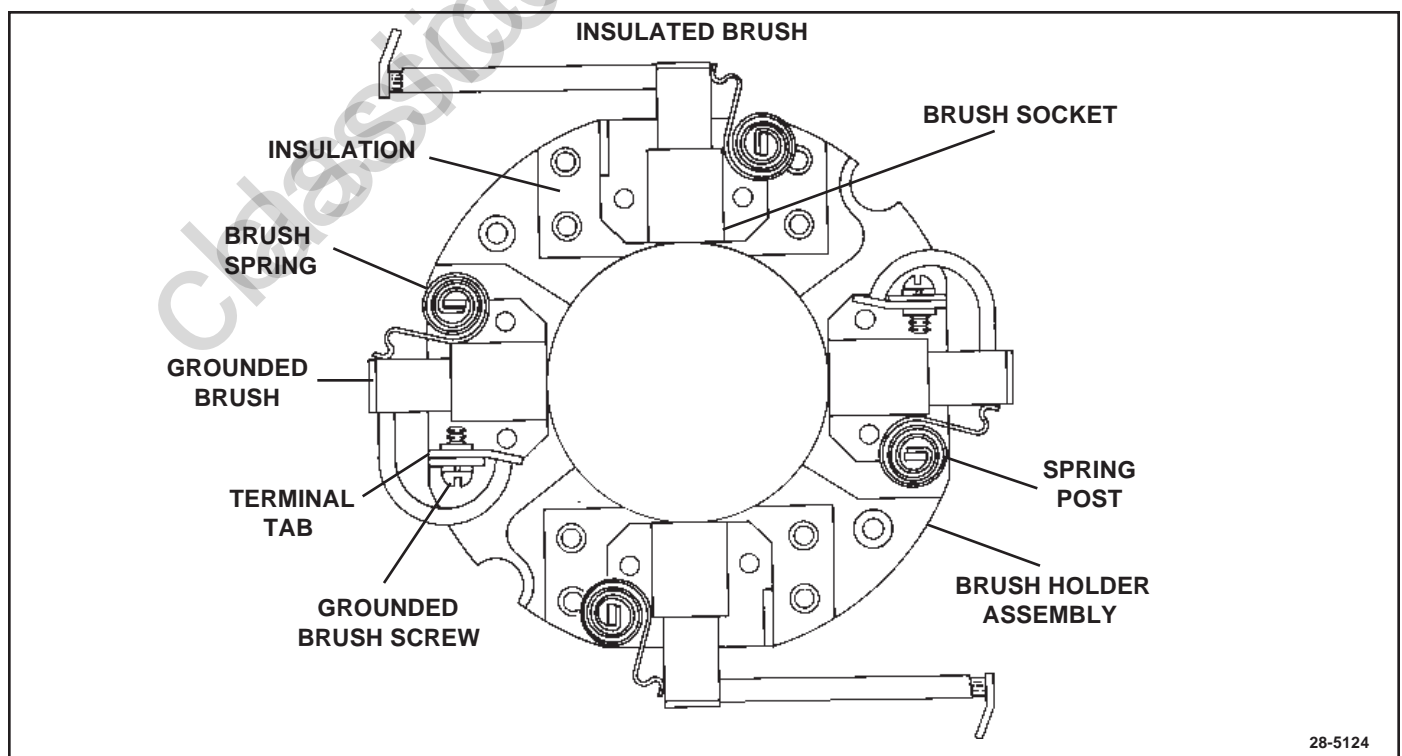

Figure 17. Springs and Brushes on Brush Holder
- See Figure 17 for proper installed position of all brushes. Make sure insulated brushes (5) go into brush sockets of brush holder assembly (3) that are mounted on insulation.
- Gradually release spring so that its end contacts side (not end) of brush (see Figure 17). This will hold brushes retracted until after brush holder is installed over armature commutator.
3. Grounded brush screws (39).
- Position terminals of grounded brush leads behind terminal tabs on brush holder (3) (see Figure 17).
- Insert brush screws (39) through terminal tabs on brush holder and thread into brush lead terminals.